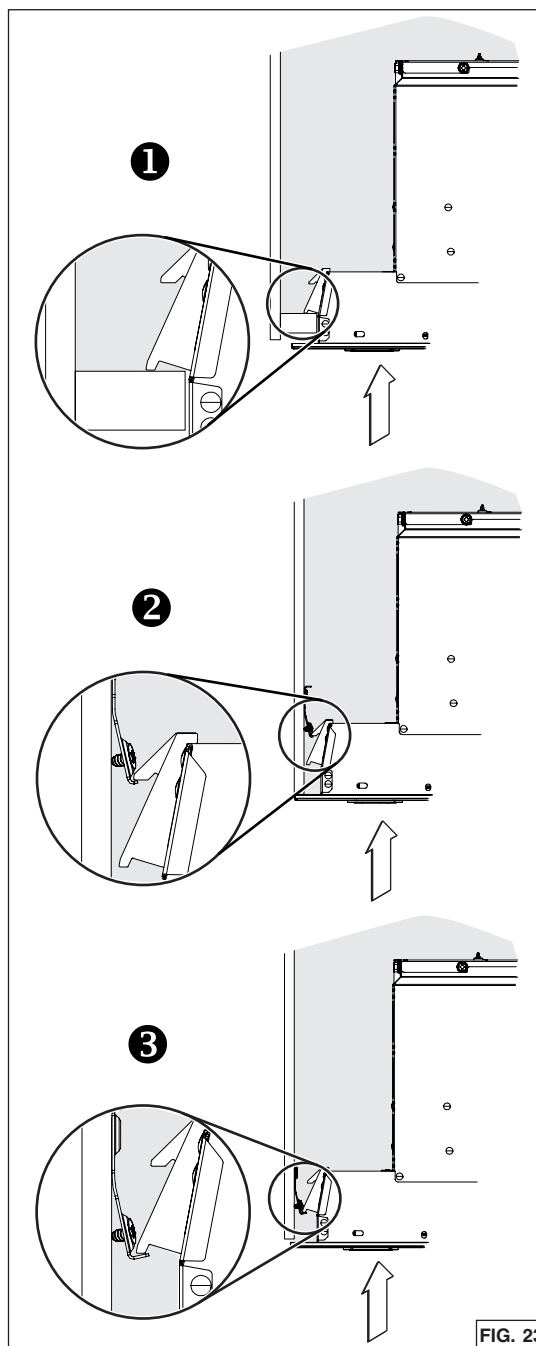

FIG. 23
2. Insert the unit in the cabinet, until you feel a 'click' from both sides of the unit, confirming that the Ease of Install Hooks rest on the top of the cabinet bottom sides ❶, or cabinet brackets ❷ or ❸ (FIG. 23). Move the unit from left to right, from rear to front and up to ensure the Ease of Install Hooks are retaining the unit inside the cabinet.